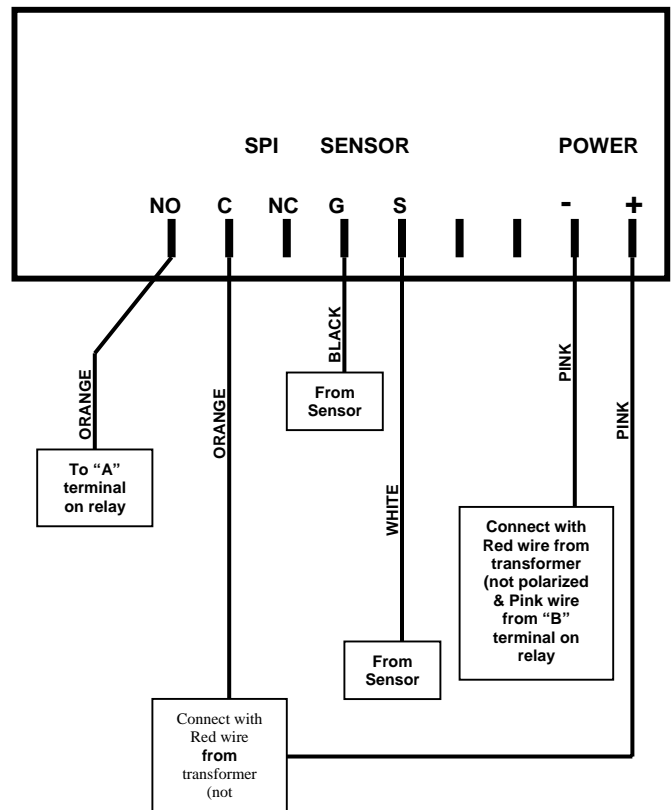

Figure 4-20
6. Reverse steps 1-5 to replace the control, (refer to Figure 4-20 for correct wiring).